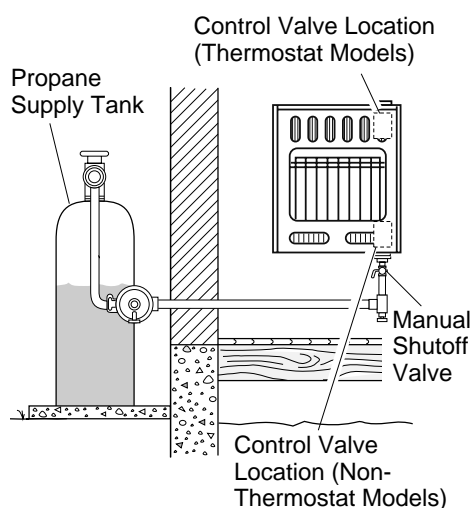

Figure 15 - Checking Gas Joints
3. Check all joints from propane supply tank to manual shutoff valve (see Figure 15). Apply mixture of liquid soap and water to gas joints. Bubbles forming show a leak.
4. Check all joints from manual shutoff valve to control valve (see Figure 15). Apply mixture of liquid soap and water to gas joints. Bubbles forming show a leak.